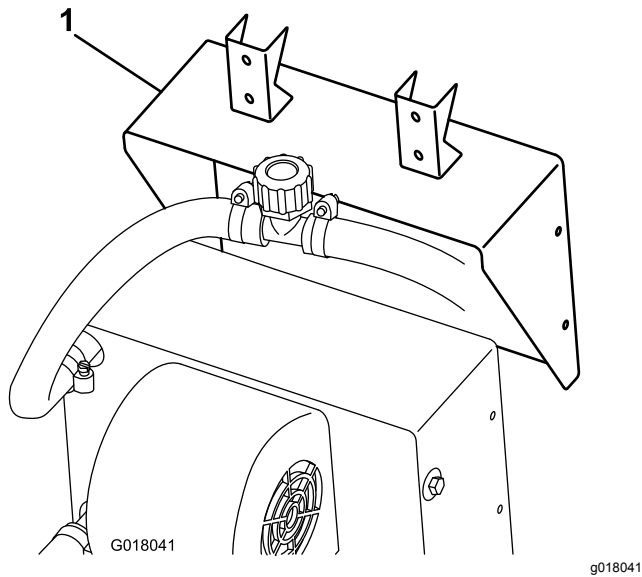

Figure 3
1. Attach the heater bracket to the heater using the screws supplied with the heater (Figure 3).